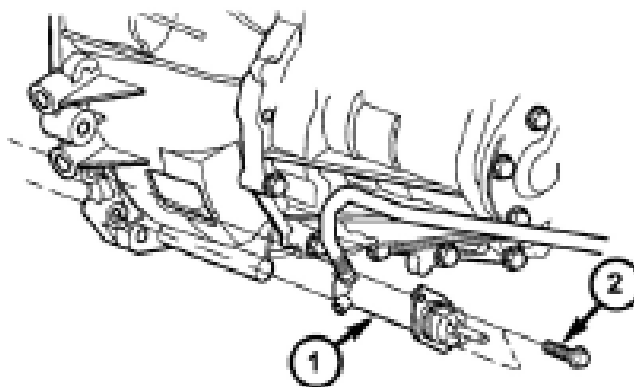

Figure 3-4 TRITEC1.6L slave cylinder for clutch r
(1) Verify the oil level in the oil reservoir of clutch master cylinder and refill DOT4 brake oil as the case may be.
(2) Hoist the vehicle.
(3) Remove the slave cylinder assembly (Figure 3-4) of clutch from the transmission case, don't separate it with the system and allow the slave cylinder to suspend to make it below the system.